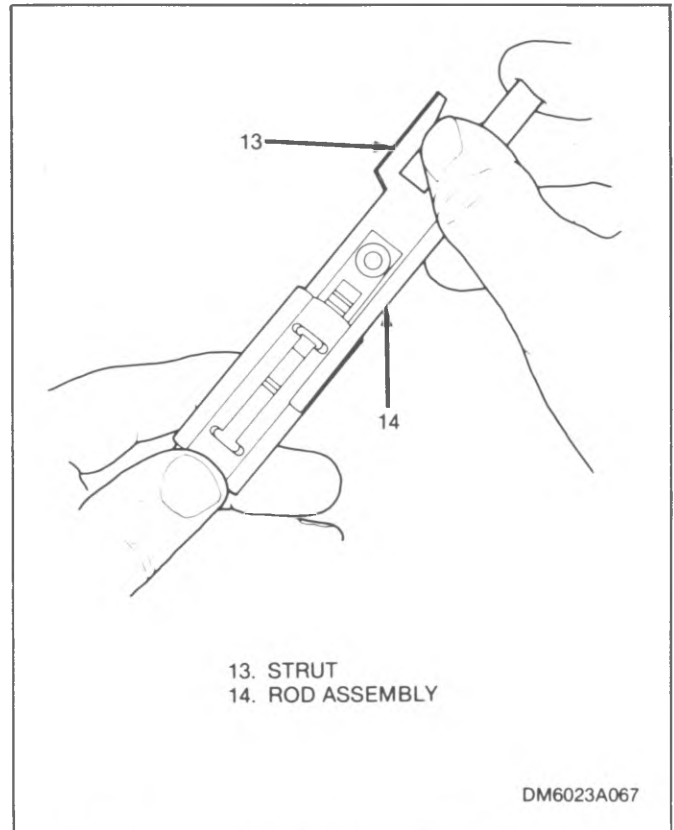
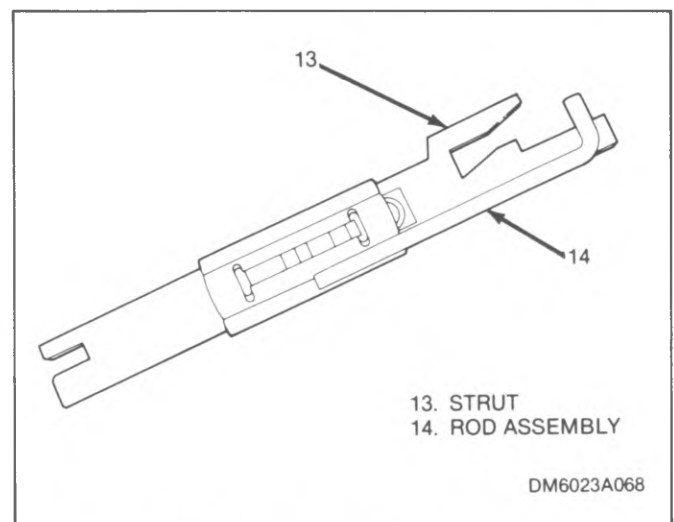

Figure 4-23. Starting Adjuster Into Position
Figure 4-24. Strut and Adjuster in Position
16. Slide rod assembly (14) over adjuster locks (see figure 4-23) until both locks are positioned as shown in figure 4-24. Note that adjuster lock index hole is approximately one-half covered by rod assembly.